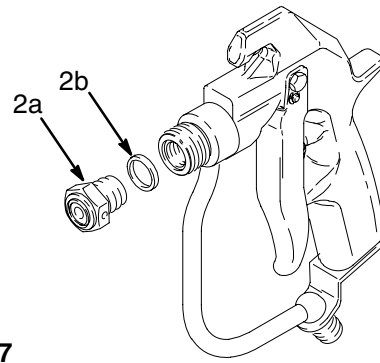

Fig. 7 03969
3. Unscrew the valve seat (2a). Remove the gasket (2b). See Fig. 7.